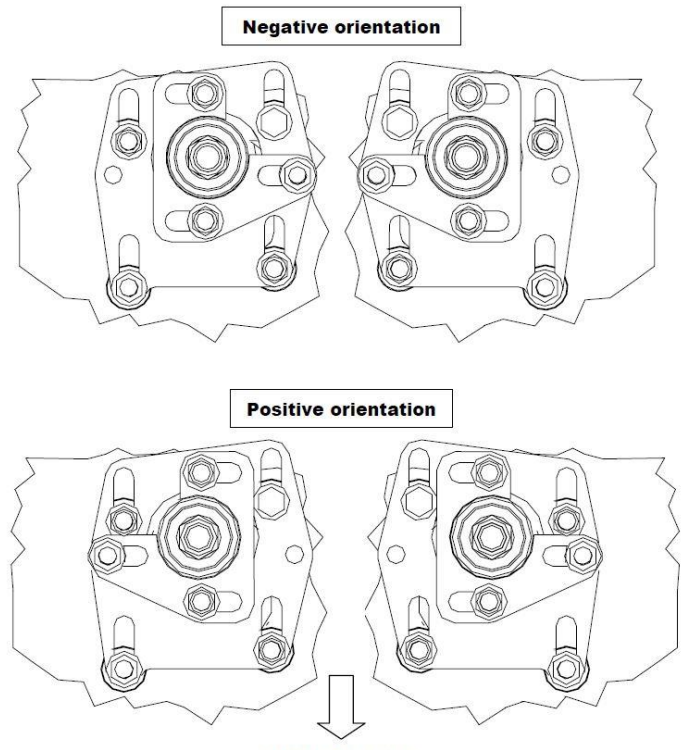

Figure 7
22. The orientation of the bearing housing assembly can be changed from "positive" to "negative" (See **Figure 7**). The majority of the cars will have the bearing plate in the "positive" orientation. Depending on the ride height (stock or lowered), the "positive orientation of the bearing housing assembly will allow camber settings varying from positive to over one degree negative. To change the orientation of the bearing housing assembly's between positive and negative, you can swap the bearing housing assembly to the opposite sides of the car.